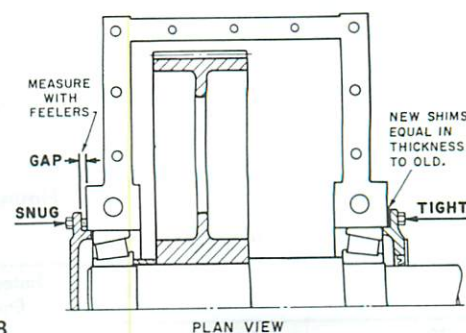

Figure 8
14. BEARING ADJUSTMENT—Figure 8.
- Measure the gap as illustrated in Figure 8.
- A. Lower the 1st intermediate shaft assembly into the housing base. Fasten cover nearest the helical pinion with new shims equal in total thickness to the old shims. Mount the opposite end cover without shims and draw up the fasteners evenly until shaft axial float is .001" to .004". Measure the GAP as illustrated in Fig. 8. Add shims whose compressed thickness is equal to this amount under the bevel gear side end cover.